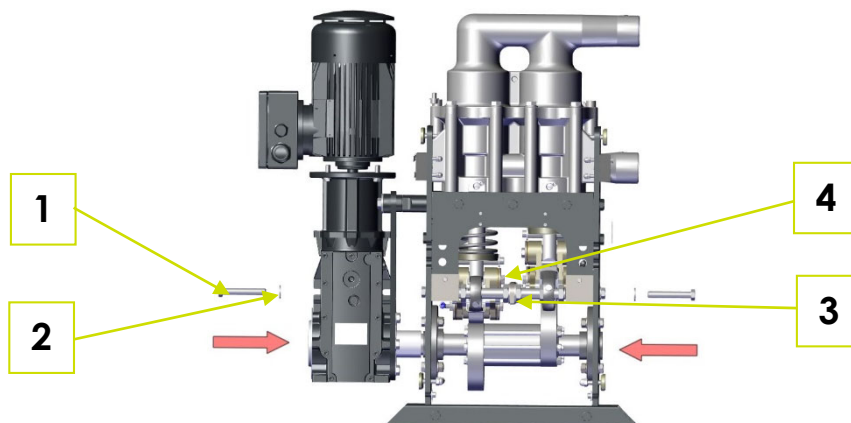

Fig. 7-5: Mounting the shear axles, inserting the pump unit
2. Insert grease lines into the angled fittings (5)
3. Use a 19 mm open-end spanner and washer (2) to screw in the shear axle with the two M12 x 80 hexagon screws (1) (Fig. 7-5: Mounting the shear axles, inserting the pump unit).
4. Connect the shear axles to the bar (4).
5. Use a 30 mm open-end spanner to fix the bar in place with the four hexagon nuts M20 x 1.5 (3) centred between both two-joint rockers and tighten to 130 Nm.